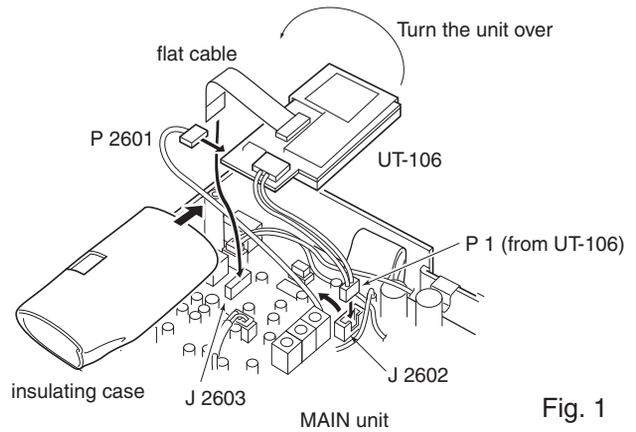
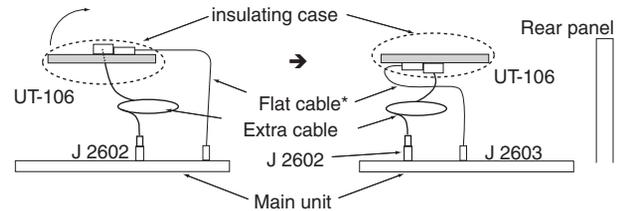

Fig. 1
Fig. 2
- ① Remove the bottom cover.
- ② Slide the insulating case onto the UT-106 as shown to the right. (Fig. 1)
- ③ Remove the connection cable (P2601) from J2602 on the MAIN unit. Connect the cable into J1 on the UT-106.
- ④ Plug the connection cable (P1) from the UT-106 into J2602 on the MAIN unit.
- ⑤ Plug the flat cable into J3 on the UT-106 and to J2603 on the MAIN unit.
- ⑥ Turn the UT-106 unit over. (Fig. 2)
- ⑦ Put the UT-106 on the MAIN unit.
- ⑧ Return the bottom cover to its original position.